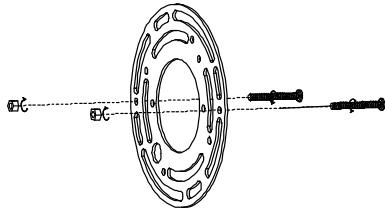

Fig 5
1. Align the screws and nuts with the holes on the Mounting Plate, tighten the screws and control the protruding length. (Fig 5)